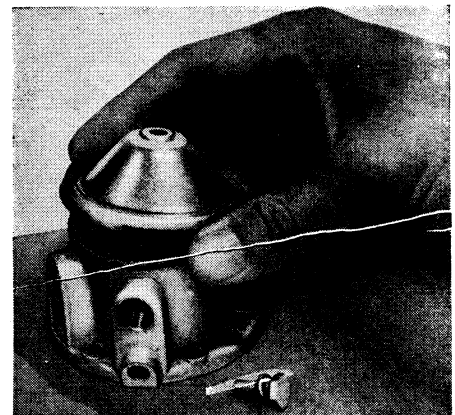

Fig. 29 Series R. Installing bowl cover
12. Install bowl cover, Fig. 29. Lay the cover over the casting and screen and install the cap screw through the hole in the center of the cover. fibre gasket is in place under a screw head.